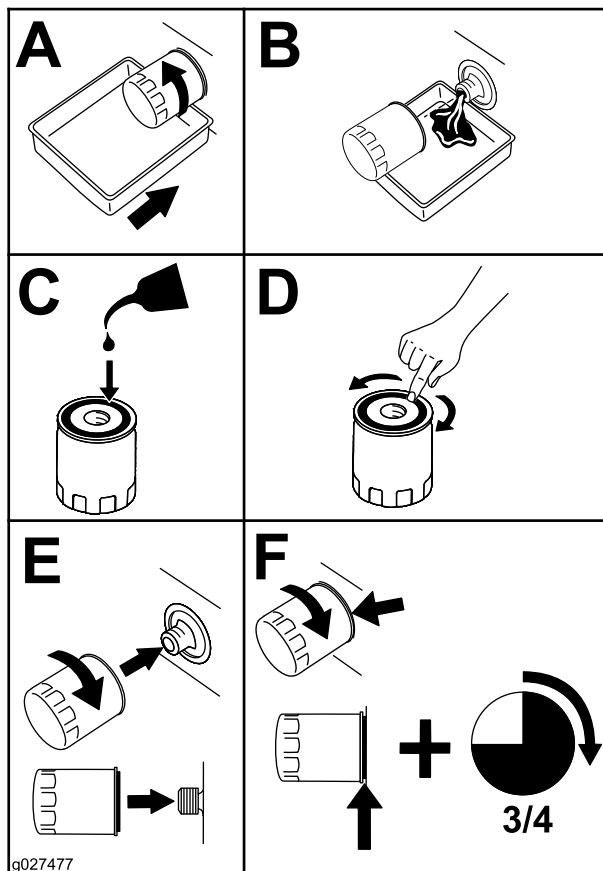

Figure 47
2. Change the engine-oil filter (Figure 47).